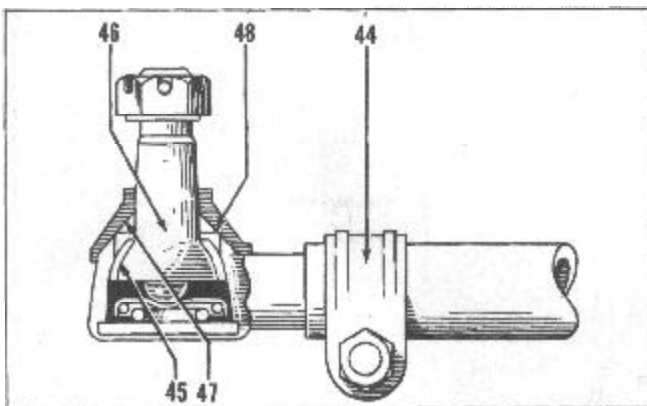

FIGURE 18
Tie rod ends are the self-adjusting type. The ground steel bearing (45), Figure 18, is located between the stud (46) (which is prevented from loosening or rattling by the tension spring) and the tie rod end forging. A curved steel dust cover (48) makes a tight metal seal, but to insure this being as nearly dust-proof as possible, a rubber seal (47) also seals the unit.